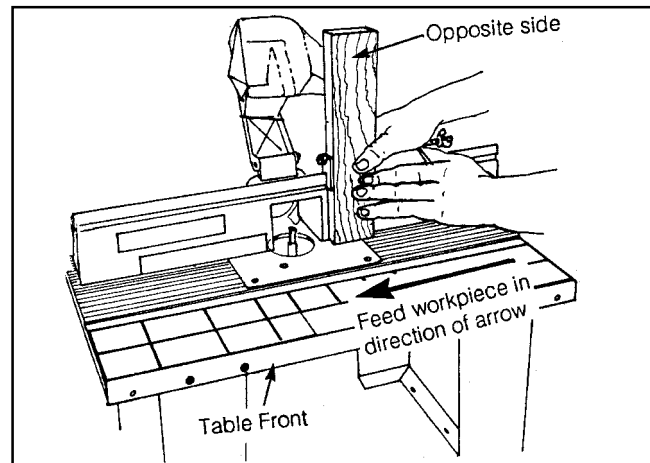

fig. Z.3
5. Slide **Push Block** and workpiece back to the position as shown in fig.Z.3. When routing, always feed against the rotation of the cutter. Feed workpiece in the direction shown by the arrow.
6. Switch router on. While holding **Push Block** and guidig workpiece against fence with both hands and fingers at a safe distance from cutter (fig.Z.3).